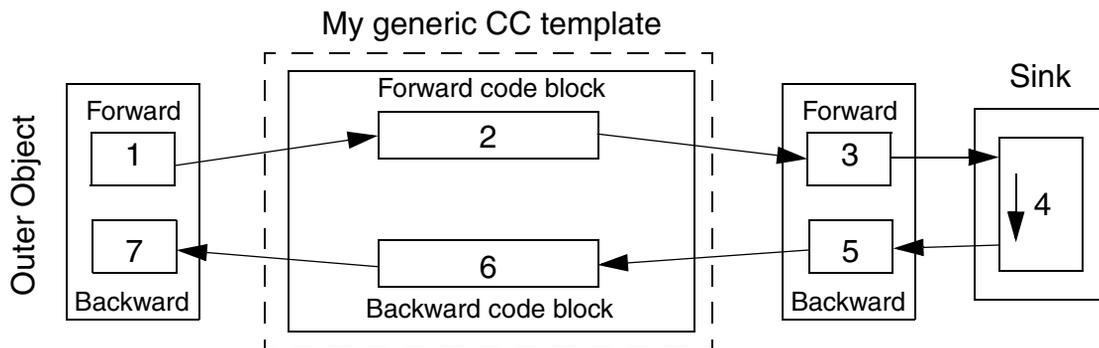

Figure 59. My generic CC template object has a generic solution which simply passes information forward to the next forward object
A generic solution continues to passing the information to the next forward block, which means that it relies on a Sink object (AO) at the end of the chain. A Sink Object (AO) is the most common to use at the end of the chain in a generic solution. It is the Sink that will change the data flow direction to go backwards (Figure 59).
As you can see in Figure 59 the Sink object contains both forward code and backward code in one code block. The backward direction sort order starts at the end of the Sink's common code block. The Sink is writing to the backward block, in this case No (5) in Figure 59.